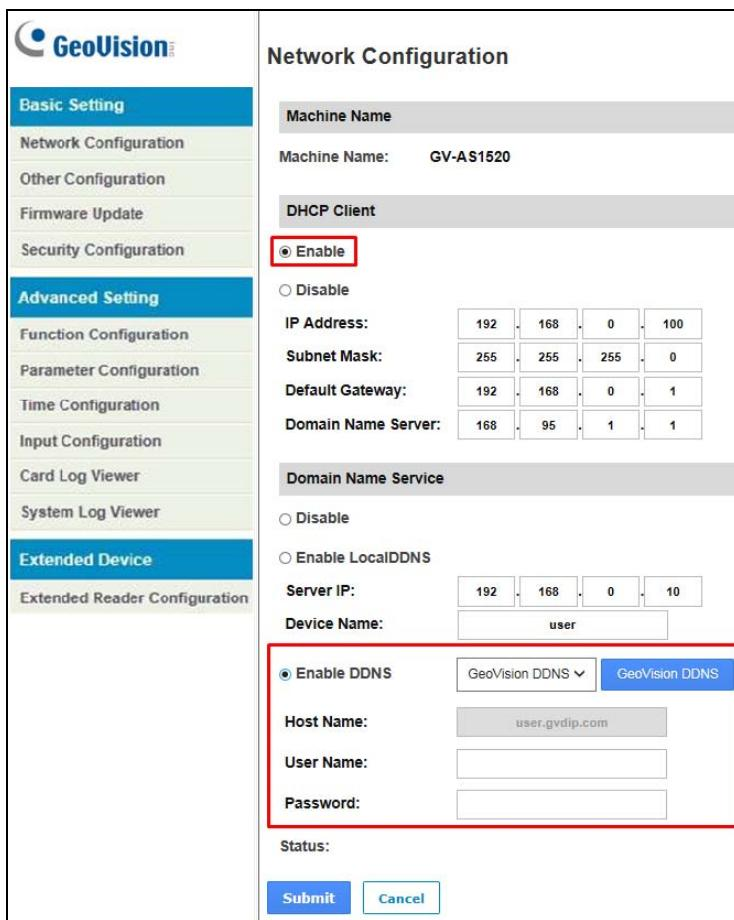

Figure 4-10
2. In the User Name and Password fields, type default value **admin** and **admin** respectively. Click **OK**. The Network Configuration page (Figure 4-10) appears.